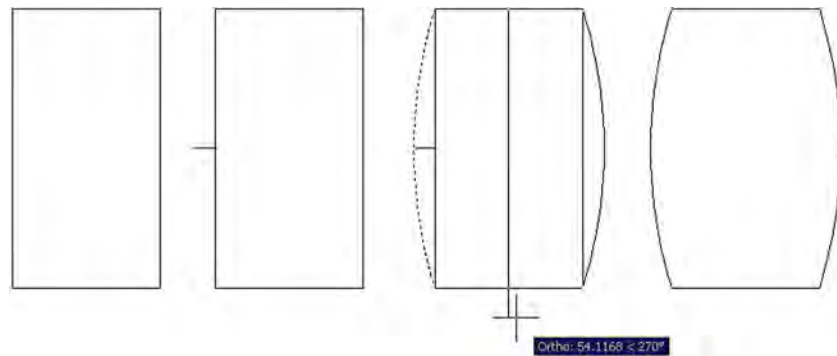

FIGURE 4.19
- To create the kitchen table you could use a rectangle with a small straight guideline sticking out from the midpoint of the left side. That could be the anchor for the second point of the arc. Then, a mirror followed by an explode and erase finishes it off, as seen in Figure 4.19.